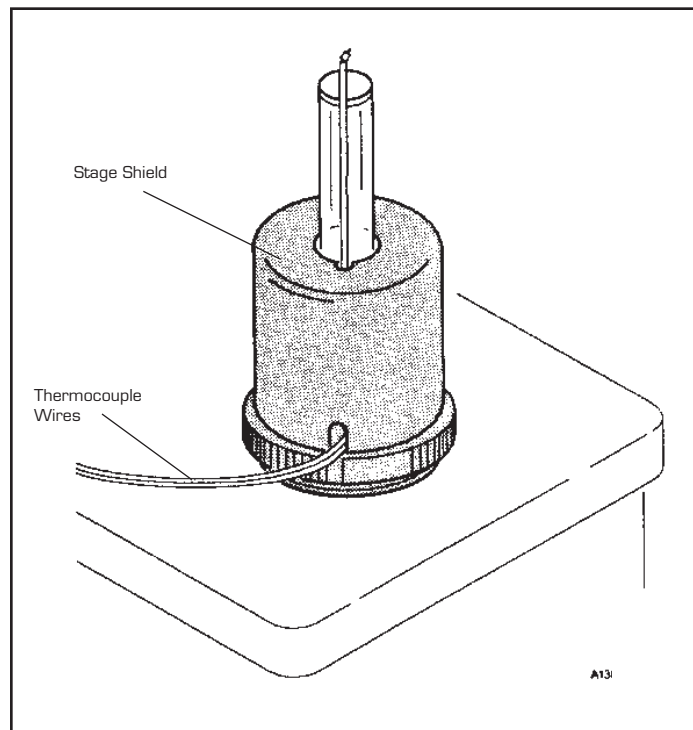

Figure 2.9
11. Put the stage shield on the stage, aligning the slot in the bottom over the thermocouple wires (see Figure 2.9).